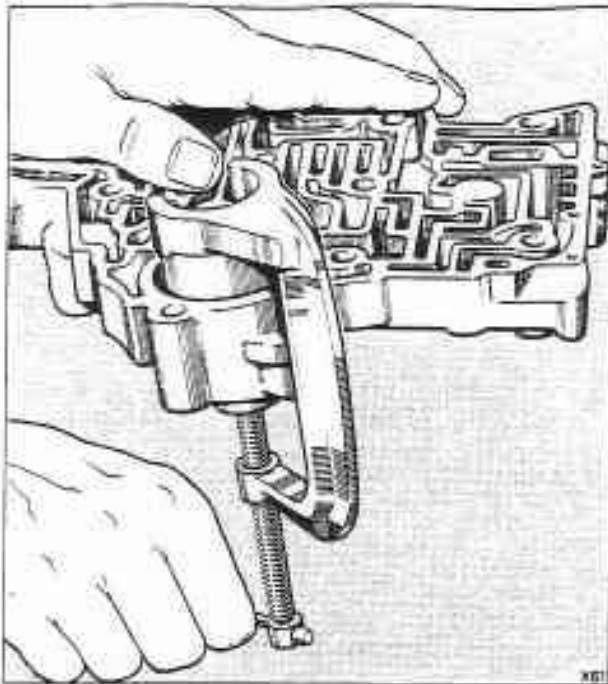

Fig. T13-3 Fitting the front accumulator piston and spring
3. Fit the valve body accumulator installing tool J-21885. Align the piston and spring with the bore then compress the spring and piston (see fig. T13-3).
- b. Fit the spring and valve (items 20 and 21) into the lower left-hand bore. Use a retaining pin to hold the valve in its position.